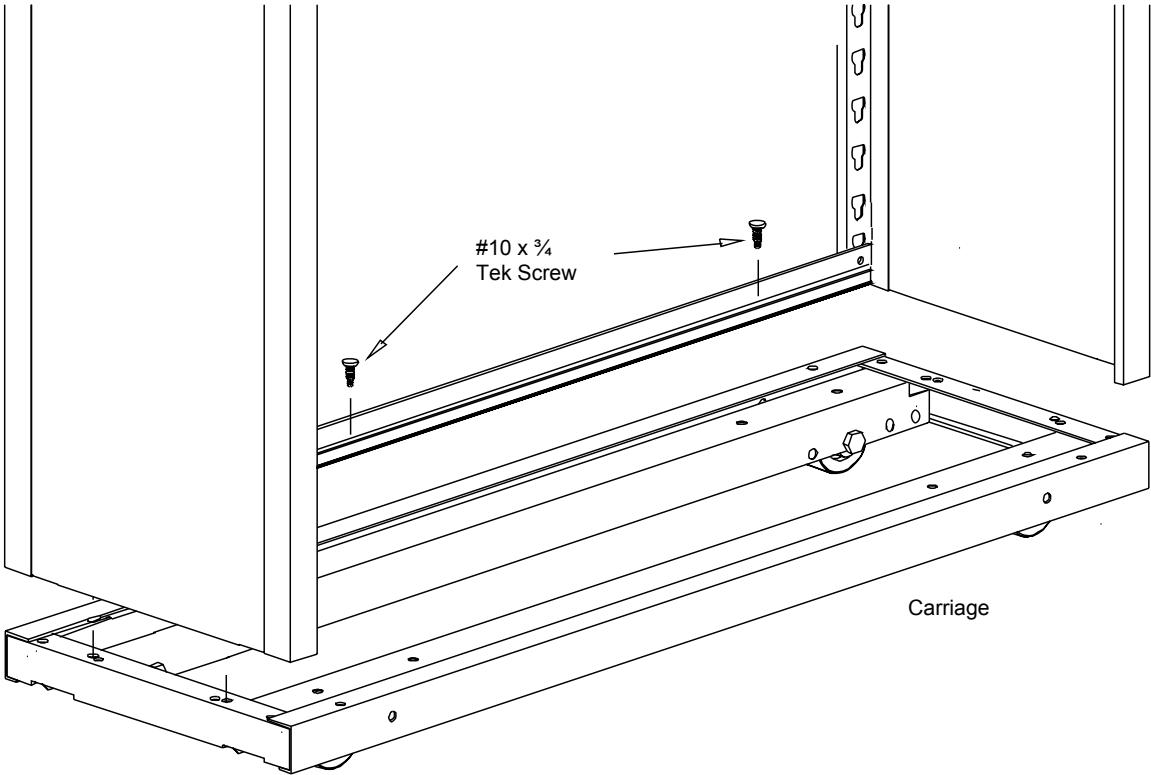

FIGURE 14
STEP 1 Assemble shelving for the mobile units per the shelving instructions. Single rivet shelf supports must be used in the bottom position. **Do not** install individual shelving at this point. Use #10 x 3/4 Tek screws and attach the bottom single rivet shelf supports to the carriage. **See Figure 14.**